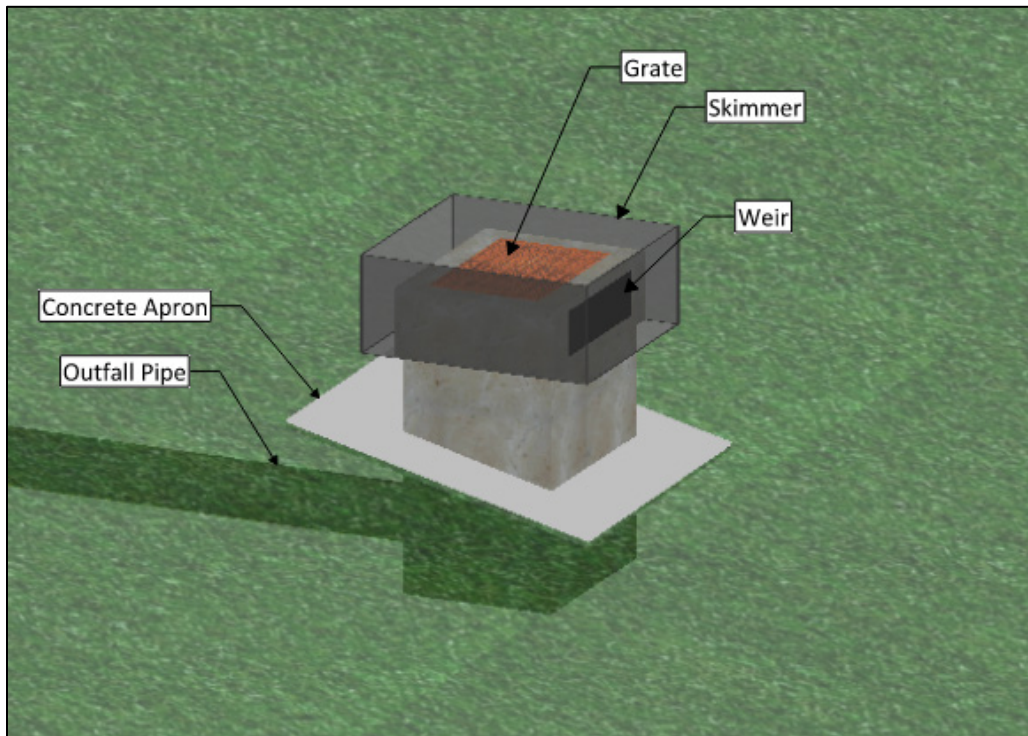
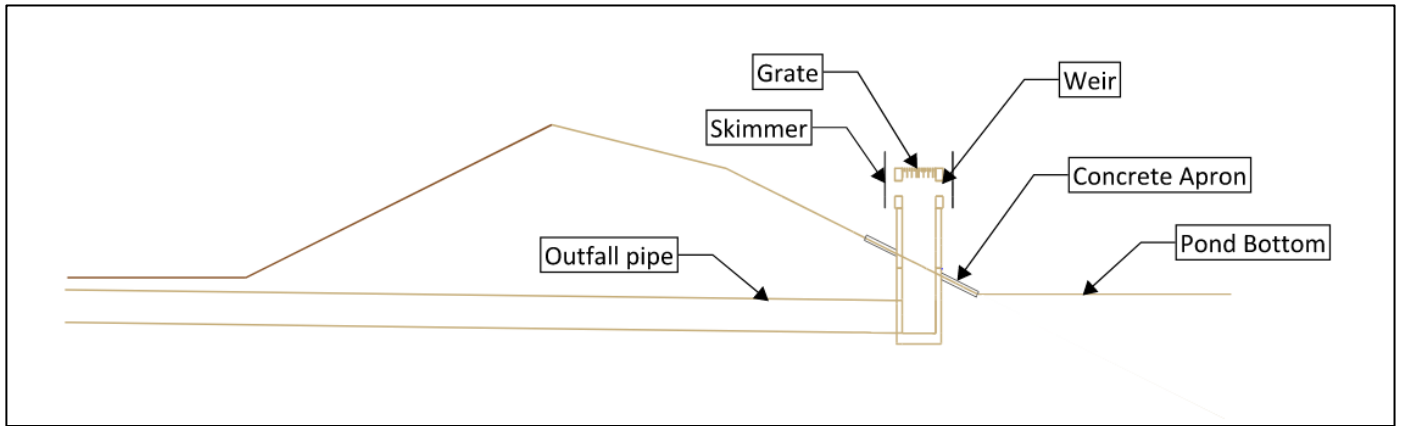

Figure 4-20. Typical Dry Retention Pond Control Structure – Isometric View (Not to scale)
Figure 4-21. Typical Dry Retention Pond Control Structure – Section view (Not to scale)
1. An emergency overflow structure that does not include a drawdown device (i.e., orifice or weir notch) since the treatment volume should be recovered through percolation through the pond bottom (Figure 4-20 and Figure 4-21).